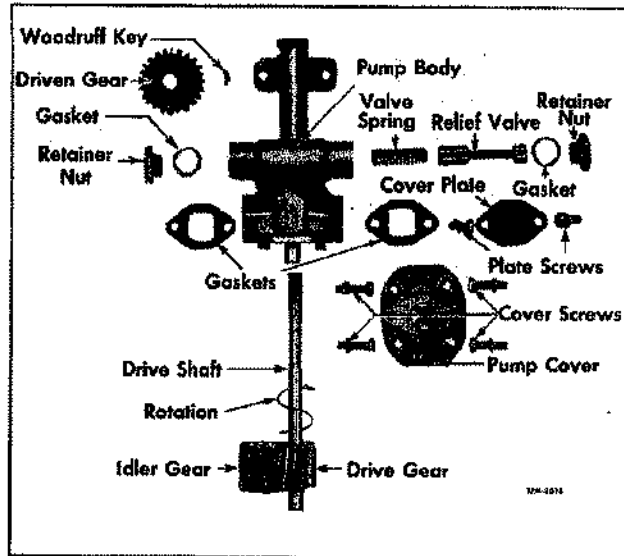

Figure 15—Oil Pump Details—RA, RC, RD, RB
to direct oil intake on correct side of pump gears. Refer to figures 15 and 16.
cover markings (figs. 15 and 16) so that these parts can be reassembled to their proper location.
With the above identification features in mind, and by reference to figures 15 and 16 assemble the oil pump, as follows:
8. Note on what engine model the pump is to be used, then refer to figures 15 and 16, and assemble the relief valve in the pump body. As viewed from gear end of pump, the intake opening in body cover and relief valve spring will both be on left side of pump for right-hand rotating engines, and on right side of pump for left-hand rotating engines. Body end covers are marked "RH" or "LH" and "TOP." Cover marked "RH" must always be used with right-hand rotation engines, while cover marked "LH" must be used with left-hand rotations. Cover marked "TOP" must always be so installed.